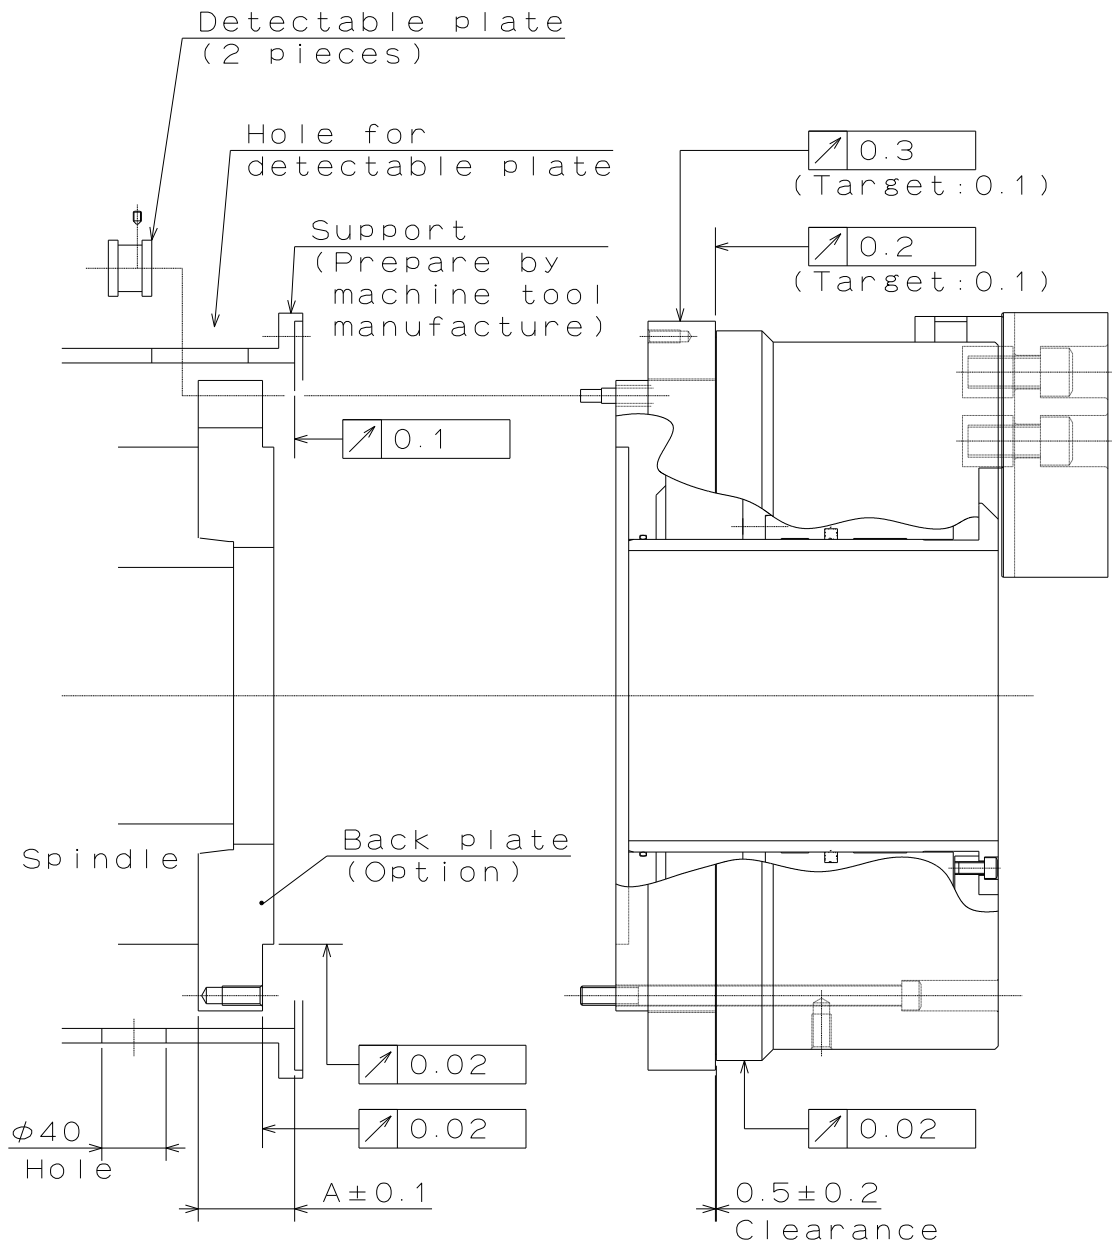

Fig.15
- Run-out of the back plate directly affects the process precision. The end surface run-out of the back plate, spigot joint diameter run-out must be 0.02 mm or less. (Refer to Fig.15)
- Provide a support to secure the air supply ring to the lathe body. Refer to the Delivery Specification for the dimensions. The end surface run-out of the support must be 0.1mm or less. For dimension A in Fig.15, consideration must be given so that the tolerance can be adjusted to within  $\pm 0.1$ .
- Provide an air escape hole (over  $\phi 40$ ) underneath the support as shown in Fig.15. This hole escapes the air coming out of a gap between supply ring and chuck. The jaw operating speed slows unless the hole is provided.
- Establish a hole for the detectable plates in the support side because you can attach or remove the chuck while fixing the air supply ring on the support like fig.15. All except for the chuck attachment and removal time block the hole up by a lid so that coolant and chips doesn't enter in the support.
- **Adjust the runout occurring when the support and the air supply ring are mounted to be less than the value shown in Fig.15. Check that the clearance between the air supply ring and the body is  $0.5\pm 0.2$  mm. If the air supply ring comes into contact with the body, seizure may occur during chuck rotation.**